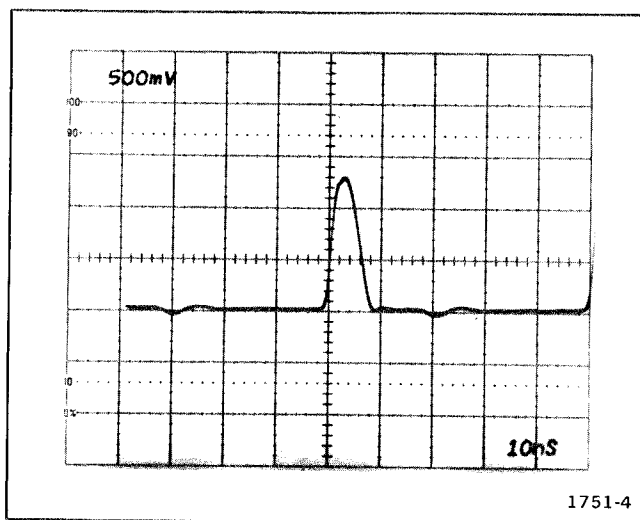

Fig. 5-4. Fast delay time accuracy.
e. Align the leading edge of the time-mark to the center vertical graticule line, using the POSITION control. See Fig. 5-4 for reference.